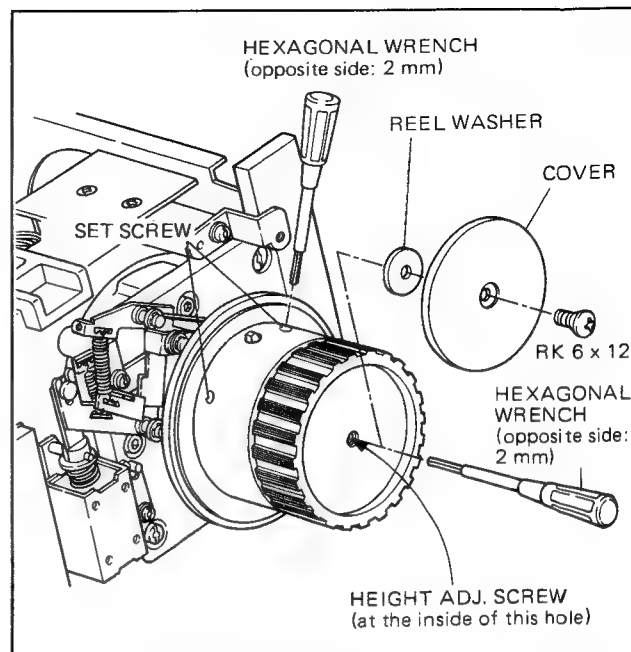

Fig. 6-11. T Reel Table Height Adjustment
- b. Loosen the two set screws securing the reel table, and turn the height adjustment screw shown in Fig 6-11.